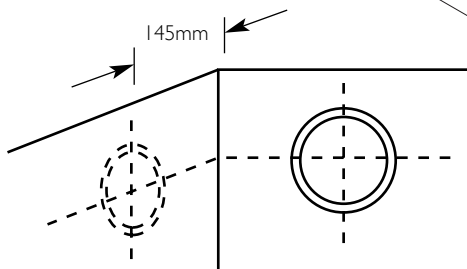

Fig. 40 For Side Flue Exit
4. Mark the position of the centre of the flue hole (rear exit). For side flue exit, mark as shown (Fig. 40).